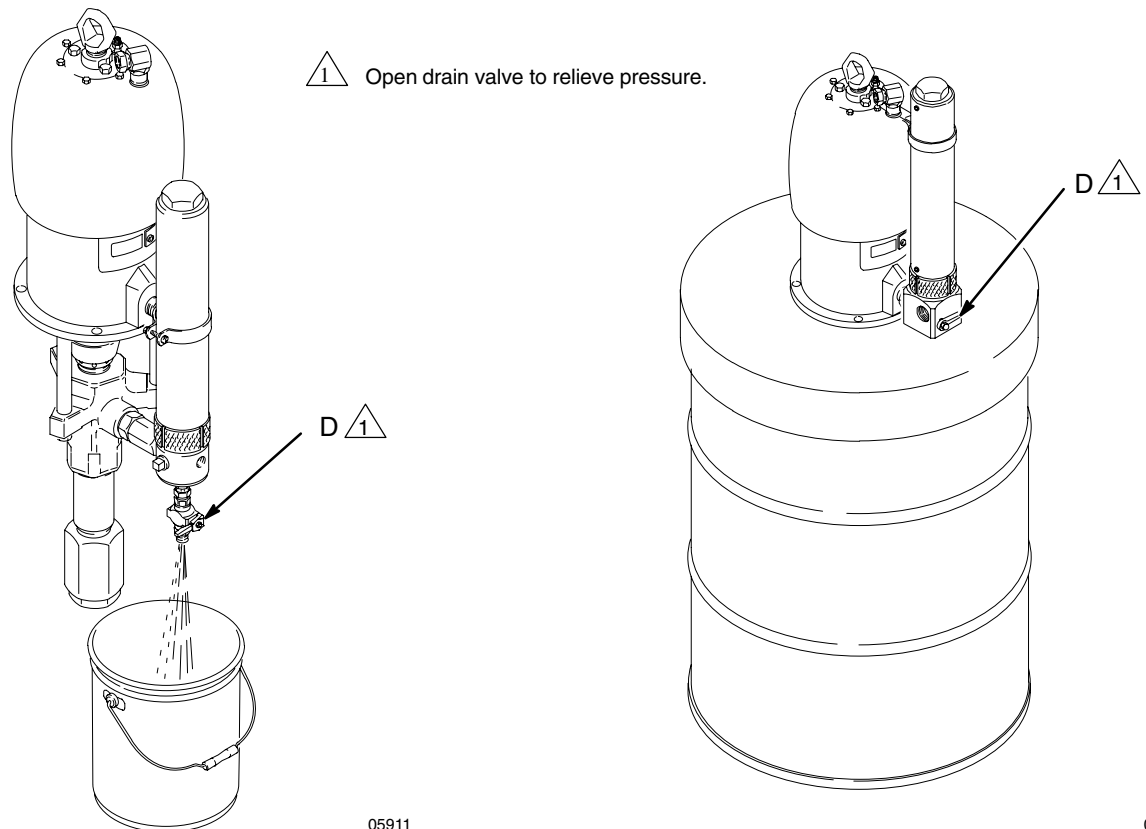

Fig. 3
If you notice excessive surging at the spray gun, shut off the pump, trigger the gun to relieve fluid pressure, and open the drain valve (D) at the bottom of the surge tank. See Fig. 3. After the tank is drained, close the drain valve and resume operation.